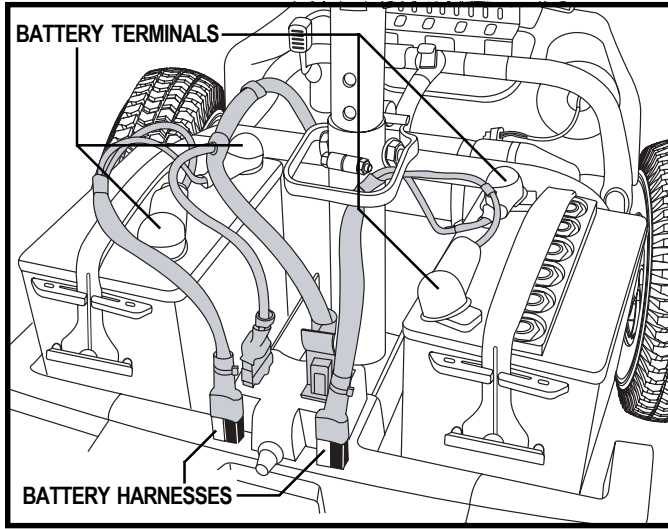

Figure 13. Battery Harnesses and Battery Cables
3. Disconnect the battery harness by pulling it straight up. See figure 13.